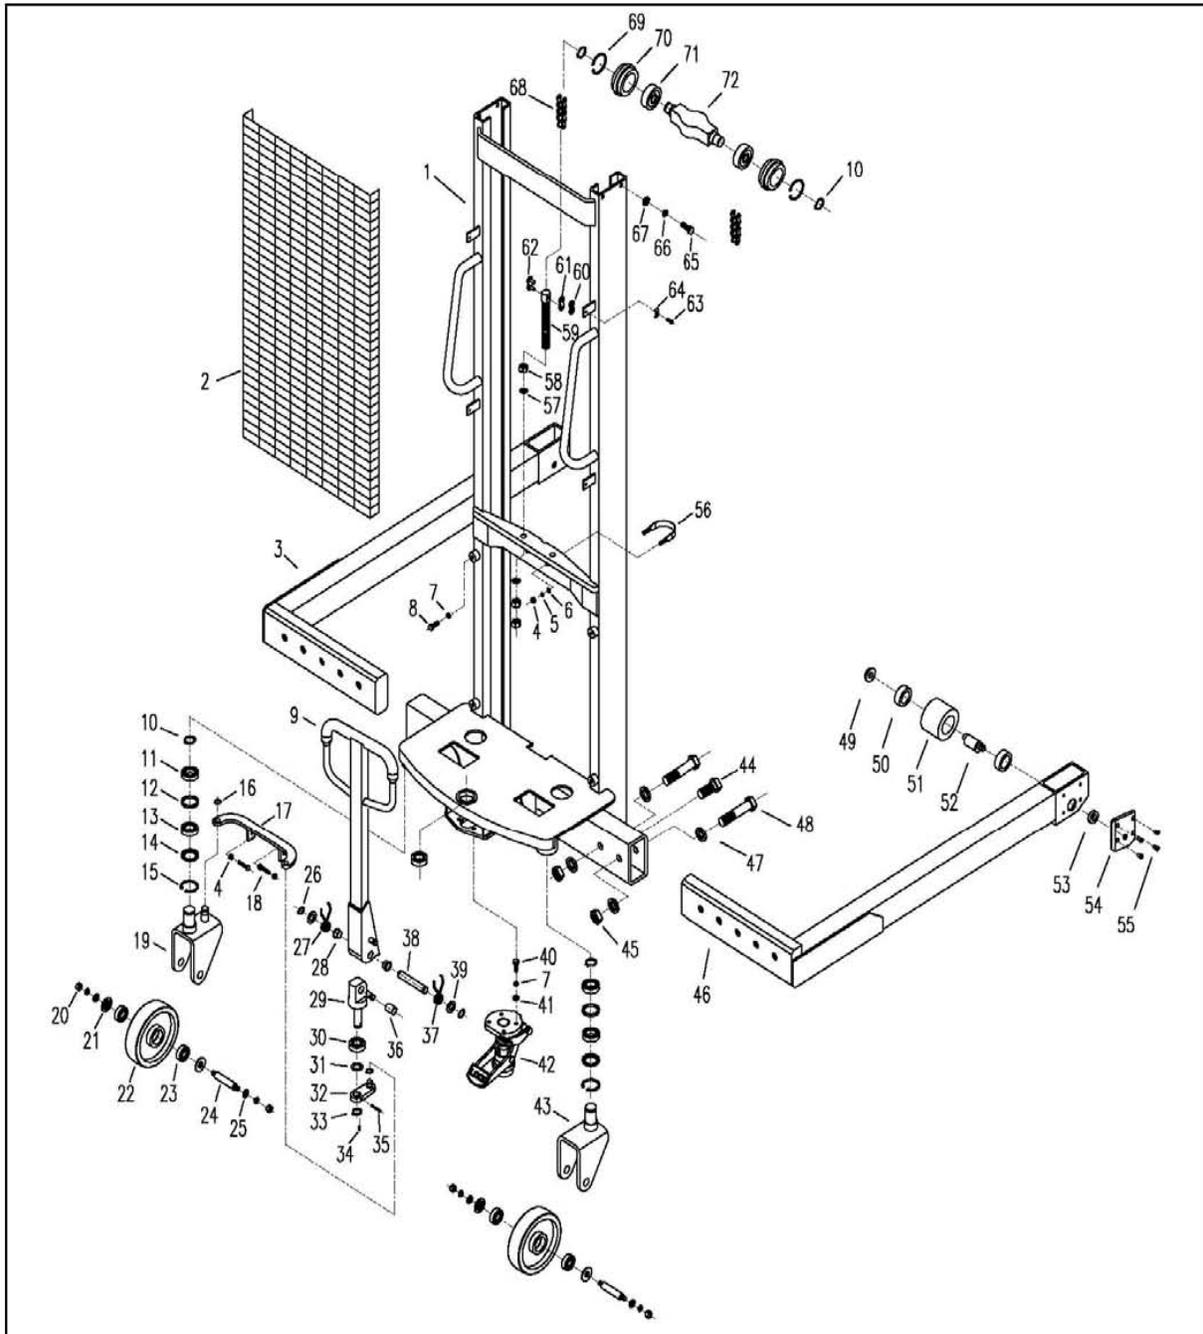
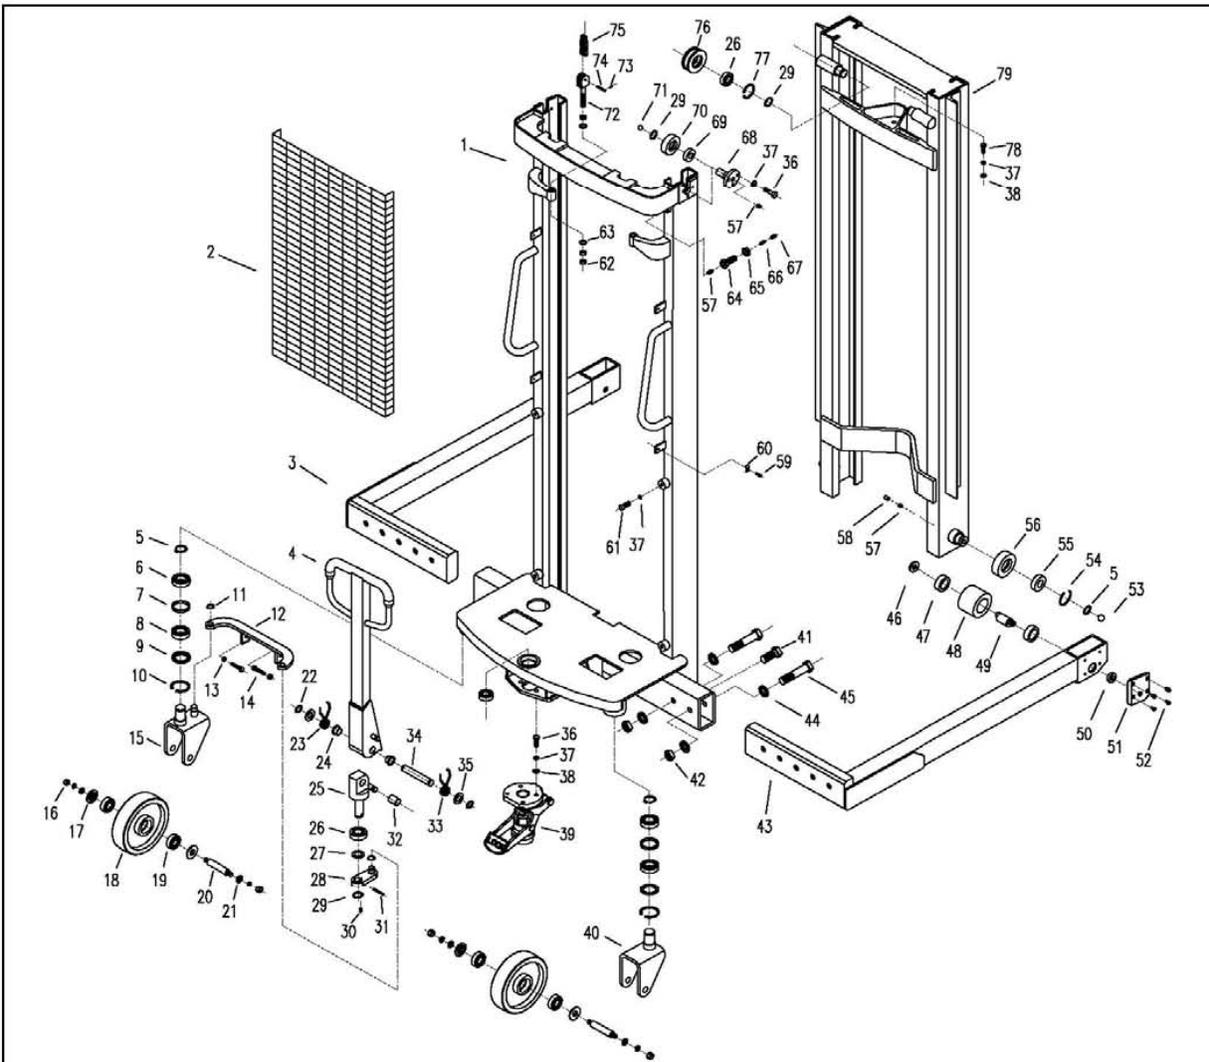
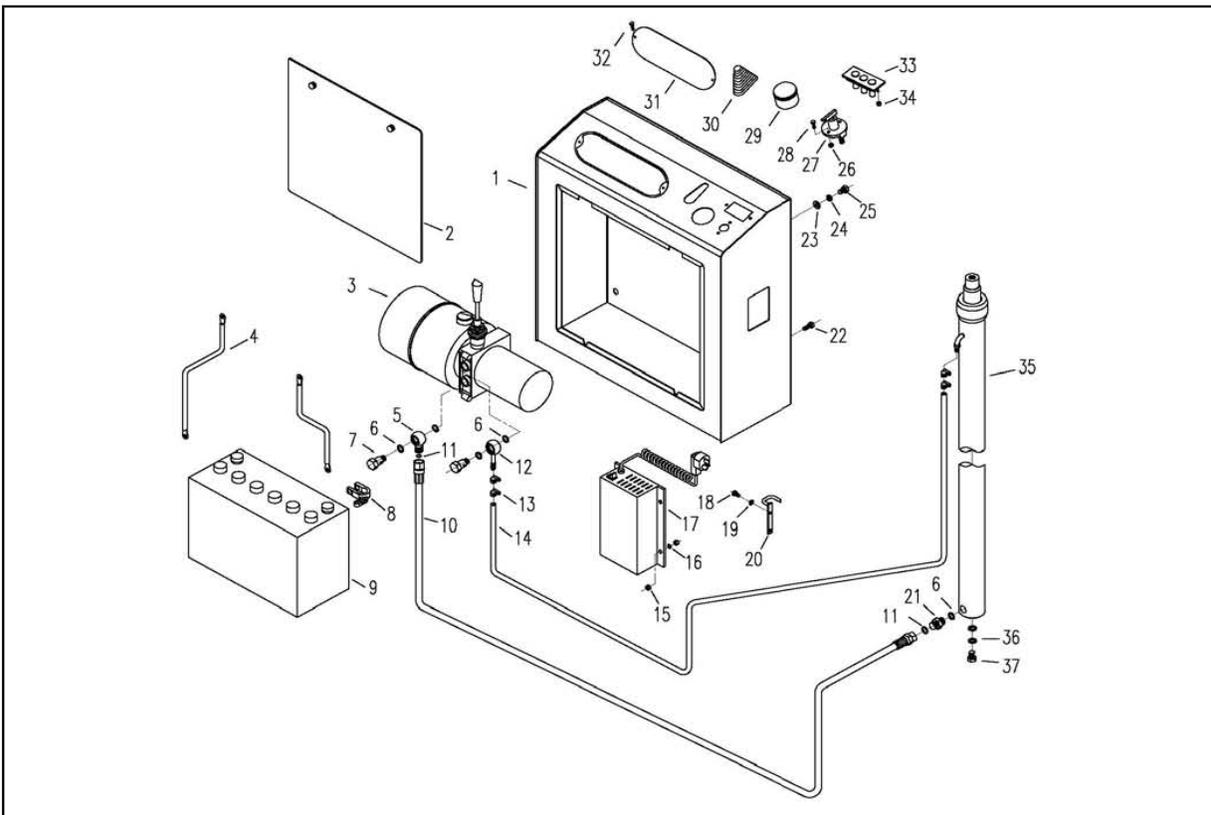

Figure 5-1. Frame (63 Inch Lift)
Figure 5-2. Frame (98 and 118 Inch Lift)
Figure 5-5. Electrical and Hydraulic System
CAUTION: At least 3 full treads must be present below bottom hex nut (58, Figure 5-1) after completion of adjustment.
CAUTION: At least 3 full treads must be present below bottom hex nut (62, Figure 5-2) after completion of adjustment.
3. Remove master link lock (60, Figure 5-1), plate (61) and link (62) that secure chain (68) to the lift carriage.
4. Remove master link lock (60), plate (61) and link (62) that secure the chain (68) to adjusting bolt (59).
5. Remove the chain from sheave (70).
6. Position new chain in place on sheave (70).
7. Connect chain (68) to adjusting bolt (59) with master link lock (60), plate (61) and link (62).
8. Connect the opposite end chain (68) to the carriage with master link lock (60), plate (61) and link (62).
5. Using a suitable lifting device attached to the inner mast (79, Figure 5-2), slowly raise the inner mast until the lift carriage is free.
6. Remove return hose (14, Figure 5-5) from the top of cylinder.
7. Loosen pressure hose (10) at the bottom of lift cylinder (35) and manually push the ram down as far as possible. The chains will become slack and need not be removed.
8. Disconnect pressure hose (10) from the bottom cylinder (35)
9. Remove O-ring (11), connector (21) and washer (6) from cylinder (35).
10. Lift chains from sheaves (70, Figure 5-1) and set them aside.
11. Lift ram head (72) from cylinder (35)
12. Remove nuts (4), lock washers (5), flat washers (6) and clevis bolt (56) that secure the lift cylinder and remove the cylinder.
1. Position the lift cylinder on the mast and secure with clevis bolt (56, Figure 5-1), flat washers (6), lock washers (5) and nuts (4).
2. Position ram head (72) on the lift cylinder.
3. Position lift chains (68) on sheaves (70).
4. Install O-ring (11, figure 5-5), connector (21) and washer (6) on cylinder (35).
5. Connect pressure hose (10) on the bottom of cylinder (35).
6. Connect return hose (14) to the top of cylinder (35).
11. Install cover (2) and secure with the two thumb screws.
4. Turn the two thumb screws on cover (2) and remove the cover.
6. Remove bolt (78, Figure 5-2), lock washer (37) and flat washer (38) securing the lift cylinder to inner mast.
7. Remove return hose (14, Figure 5-5) from the top of cylinder (35).
8. Loosen pressure hose (10) at the bottom of lift cylinder (35) and manually push the ram down as far as possible. The chains will become slack and need not be removed.
9. Disconnect pressure hose (10) from the bottom cylinder (35)
11. Remove O-ring (11), connector (21) and washer (6) from cylinder (35).
2. Using a suitable lifting device, support the inner mast (79, Figure 5-2) and remove the supports.